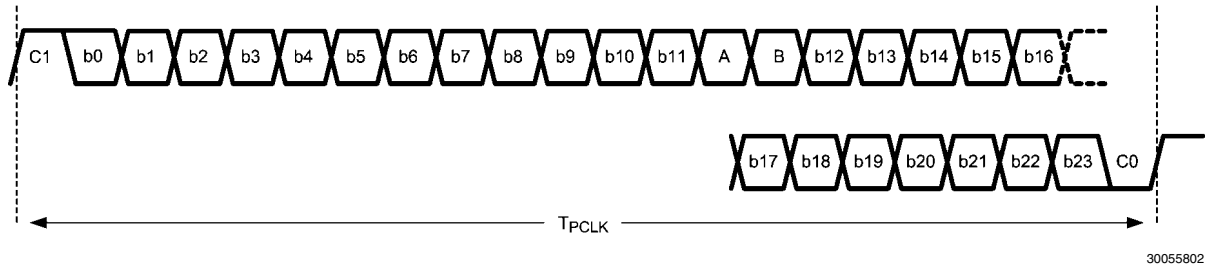

FIGURE 2. 24-bit Serial Payload Example
An example of the 24-bit (user) payload is shown in Figure 2. The 24-bit data field is appended with four additional serial bits which provide the embedded clock information, link coding, and operating mode information. A fixed clock edge is created between the C0 and C1 bits, and the coding/mode information is conveyed by the A & B bits.
The serial payload is optimized for the different chipsets in the FPD-Link II family and also for the applications they support. A common serial payload to explain as a reference is the 28-bit serial frame shown in Figure 2 above. The 28 bits are comprised of: 24 data bits, 2 bits of embedded clock information, and 2 bits of serial control for the link. Thus, for every 24 bits of data, 28 serial bits are sent. This makes the basic link 24/28 (86%) efficient. This is an important bench mark, as it is always desirable to keep overhead low. This scheme is also ~30% better than the common data communication 8b/10b scheme which is 80% efficient. Note that the 24 data bits are modified by the balancing, randomization, and scrambling. This is done to support the AC coupling on the link, and also to help reduce ISI (Inter-symbol Interference) effects when sending relatively static data. The two clock bits are fixed, with one bit high (C1) and one bit low (C0) – note these two are DC balanced as a pair. The two serial control bits, commonly noted as DCA (A) and DCB (B), provide information to the DES to recover the data and also the link status and mode. Chipsets supporting 24-bit RGB encode the status of video synchronization signals in the serial stream.